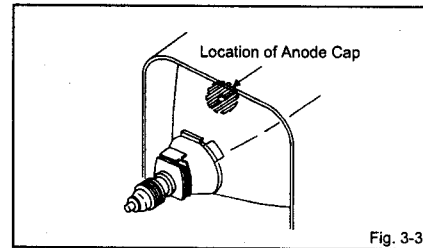

Fig. 3-3
- Clean the spot where the cap was located with a small amount of alcohol. (Refer to Fig. 3-3.)